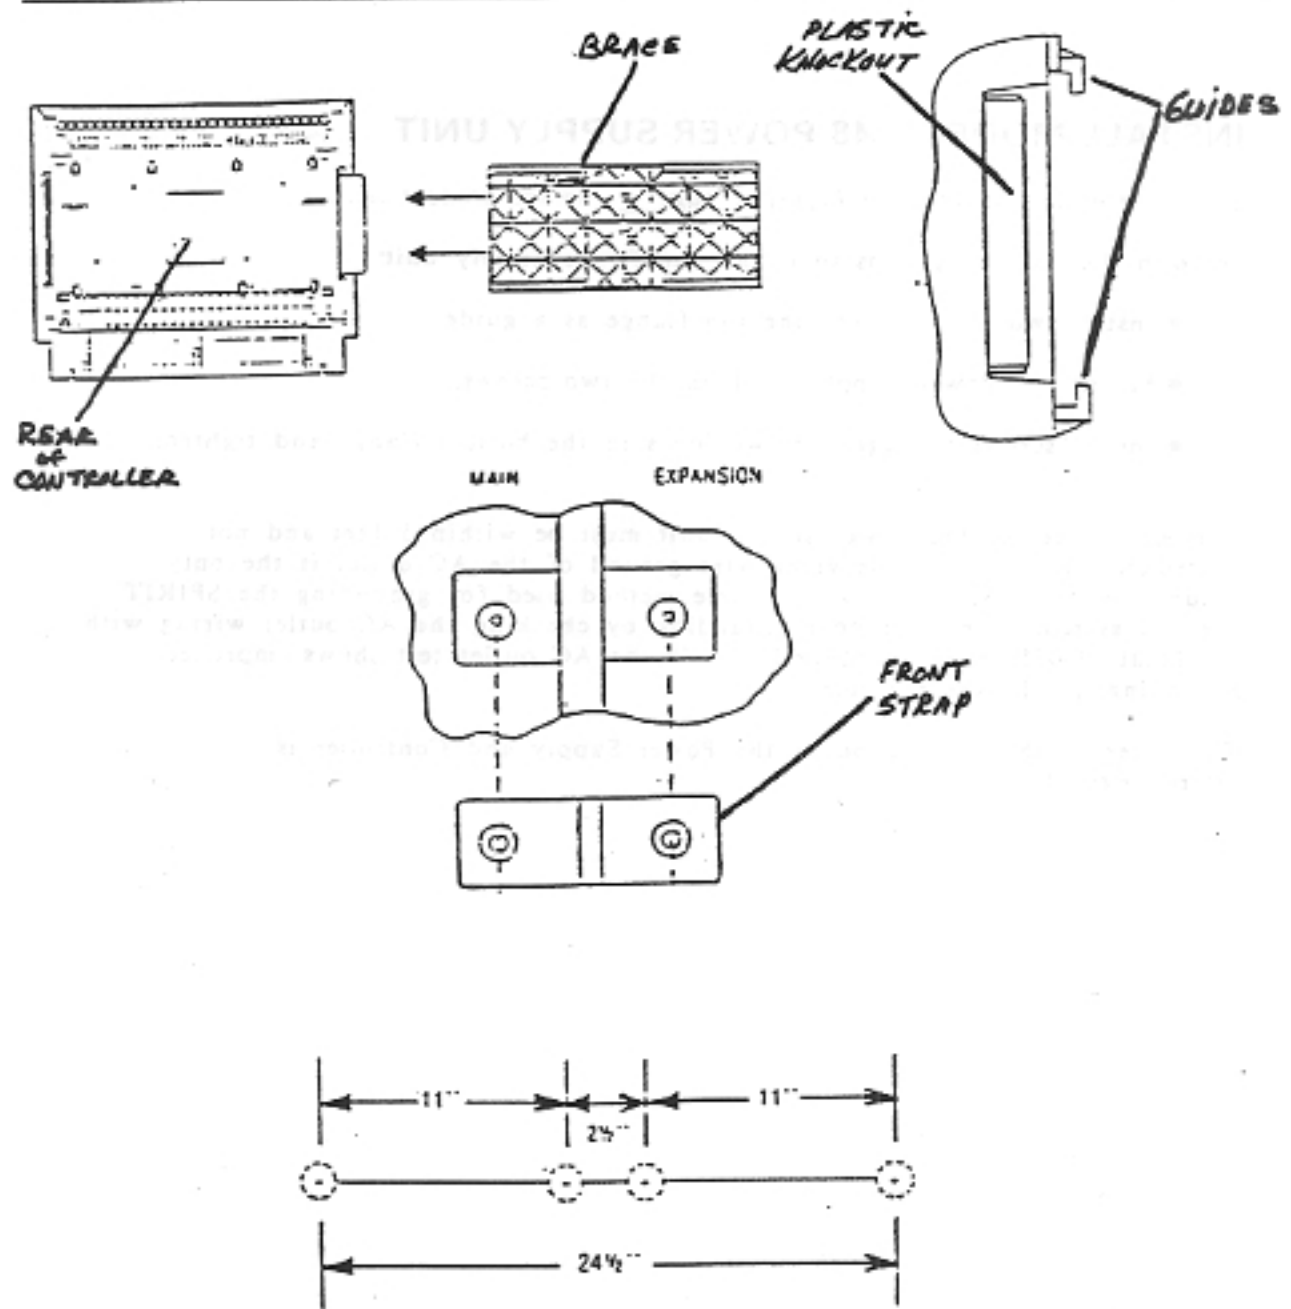

Figure 3. EXPANSION UNIT HARDWARE
- Install top two screws using the front cover ribs as a guide. (The center two ribs are 2 1/2 inches apart as shown in figure 3.)